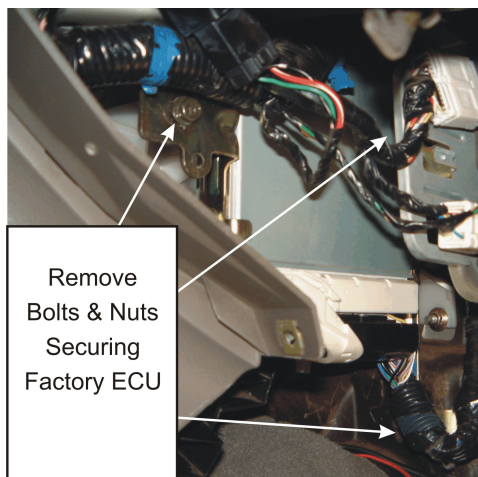

Figure 3 – Factory ECU Location with cover removed
3. Disconnect the main wiring harness connector from the ECU by pulling the lever towards the rear of the vehicle. Cut the 2 cable ties securing the wiring harness to the ECU bracket. Remove the 3 securing bolts and nuts from the factory ECU bracket as shown in figure 3. Remove the Factory ECU from the vehicle.